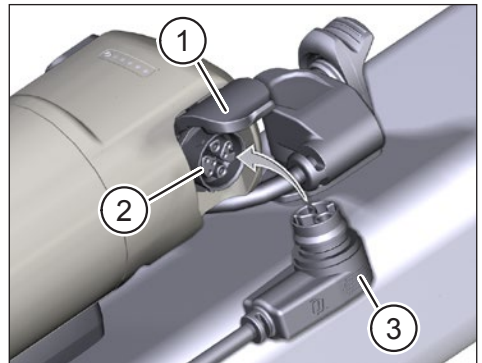

Fig. 3: Range Extender charging
- ▶ Open the cover (item 1 in Fig. 3) on the charging port of the Range Extender.
- ▶ Check that the contacts in the charging port (item 2 in Fig. 3) are free of dirt and clean them if necessary.
- ▶ Insert the charging plug (item 3 in Fig. 3) of the Charger into the charging port of the Range Extender.